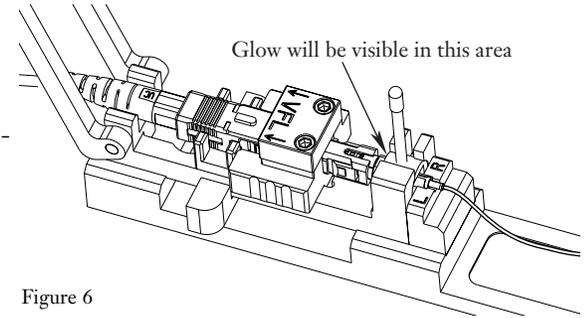

Figure 6
2.3 Turn on the VFL light source. A glow should be visible in the area of the cam (see Figure 6) when the CTS system is on.
2.5 Apply the inward pressure to the field fiber(s) /cable as described in the connector installation instructions (Figure 6).